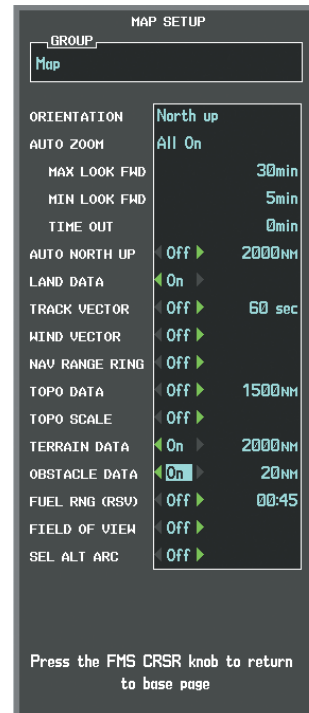

Figure 6-130 Navigation Map Page Setup Menu, Map Group
- 5) Turn the large **FMS** Knob or press the **ENT** Key to scroll through product selections (Figure 6-130).